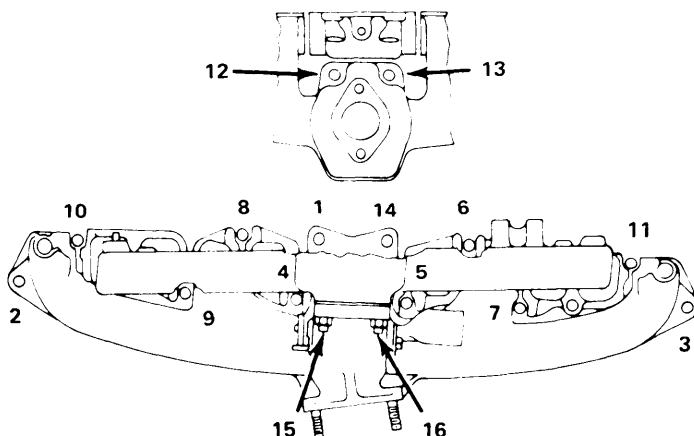

Fig. 1 Intake Manifold Tightening Sequence
2) Position new intake manifold gasket on cylinder head and install manifold assembly. Tighten manifold attaching bolts and nuts in sequence (see Fig. 1). To complete assembly, reverse removal procedure.